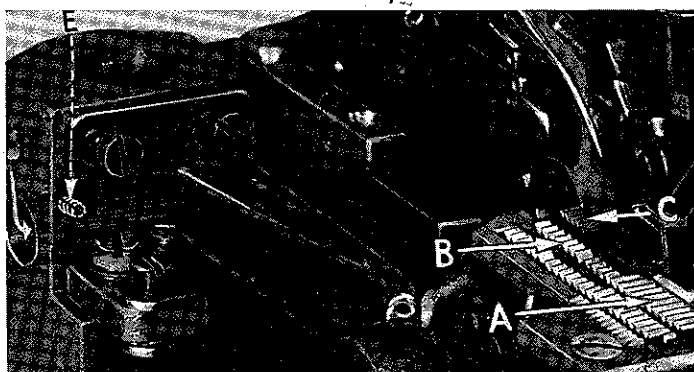

Fig. 12
On Style 39500 A, set all three feed dogs (A, B, C, Fig. 12) so the top surfaces of teeth all lay in the same plane. This can be checked by sighting across teeth with a straight edge. Feed dogs should now be leveled with throat plate surface by rotating feed tilting adjusting pin (D). This pin raises or lowers the back end of both feed bars at the same time.